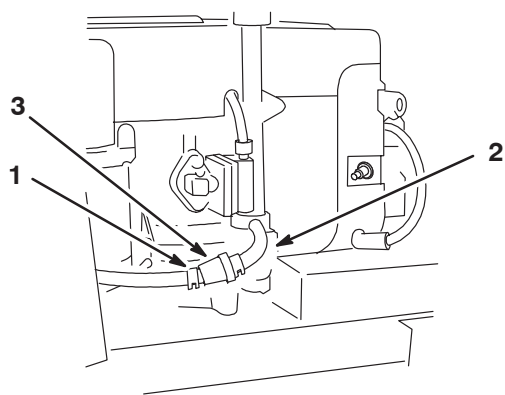

Figure 37
3. Close the fuel shutoff valve (Fig. 37).
4. Squeeze the ends of the hose clamps together and slide them away from the filter (Fig. 37).
7. Open the fuel shutoff valve at fuel tank (Fig. 37).
4. Loosen the hose clamp at the fuel filter and slide it up the fuel line away from the fuel filter (Fig. 37).
5. Disconnect the fuel line from the fuel filter (Fig. 37).
7. Install the fuel line onto the fuel filter. Slide the hose clamp close to the fuel filter to secure the fuel line (Fig. 37).